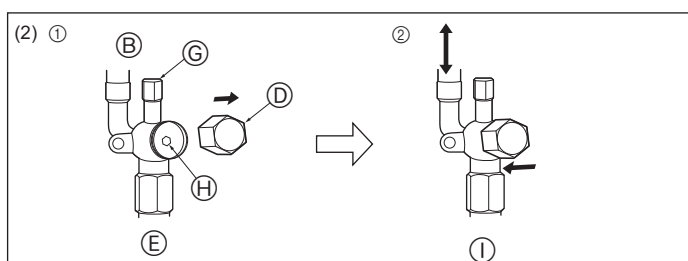

Fig. 4-7
- ① Remove the cap, pull the handle toward you and rotate 1/4 turn in a counterclockwise direction to open.
- ② Make sure that the stop valve is open completely, push in the handle and rotate the cap back to its original position.
(2) Liquid side (Fig. 4-7)
- ① Remove the cap and turn the valve rod counterclockwise as far as it will go with the use of a 4 mm [5/32 inch] hexagonal wrench. Stop turning when it hits the stopper. (ø6.35 [1/4 inch]: Approximately 4.5 revolutions) (ø9.52 [3/8 inch]: Approximately 10 revolutions)
- ① Valve
- ② Unit side
- ③ Handle
- ④ Cap
- ⑤ Local pipe side
- ⑥ Open position side
- ⑦ Service port
- ⑧ Wrench hole